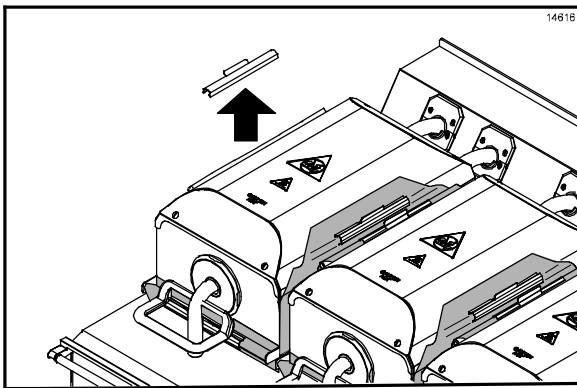

Figure 82
8. Remove the release sheet locking clips, bars, and release sheets. Take the clips and bars to the 3-compartment sink to be washed and rinsed. If necessary, soak them in a hot solution of **SolidSense APSC** to remove carbon accumulation. (See Figure 82.)